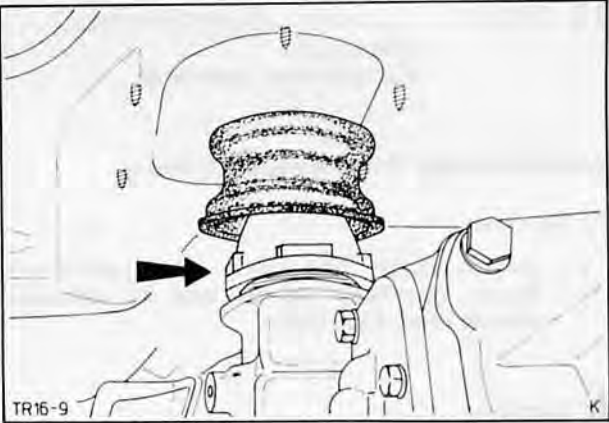

Fig. 137. Fit gear lever assembly
- 4. Insert gear lever and attach plastic cap from underneath, Fig. 137.